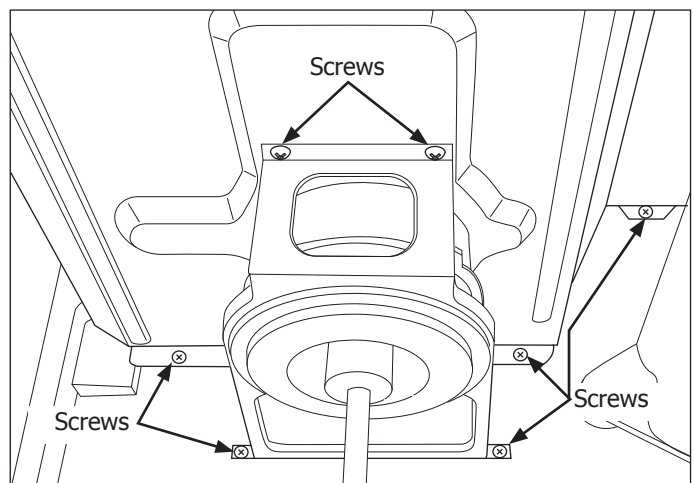

Figure 4-49.
7. Extract the five screws securing the front partition to the unit base. (See Figure 4-49)